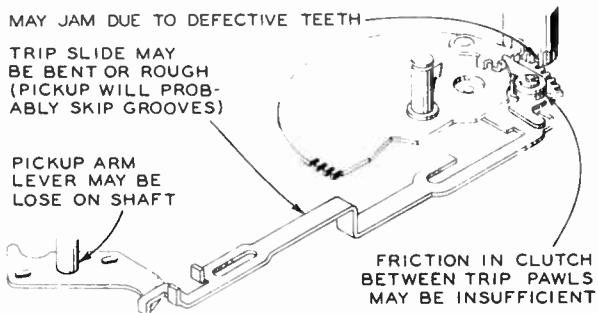

Figure V17.
7. **Will Not Reject:** See figure V17.